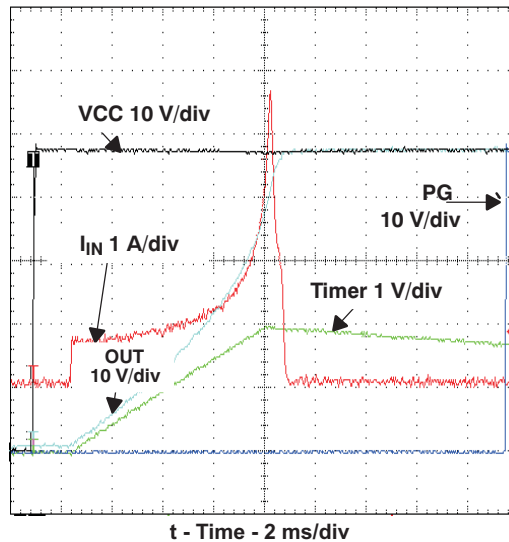
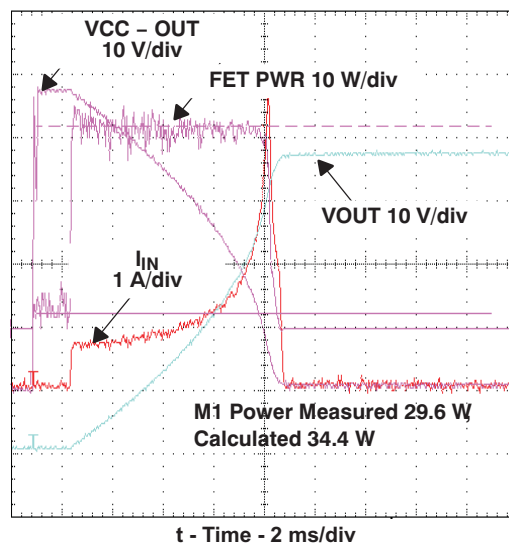

Figure 13. Basic Board Insertion
Figure 14. Computation of Q1 Stress During Startup
A capacitor may be tied from PROG to ground to alter the natural constant power inrush current shape. If properly designed, the effect is to cause the leading step of current in Figure 13 to look like a ramp.
The typical application circuit, and oscilloscope plots of Figure 13 through Figure 17 demonstrate many of the functions described Device Functional Modes.
### 7.4.1 Board Plug-In (Figure 13)
### 7.4.2 TIMER and PG Operation (Figure 13)
7.4.3 Action of the Constant Power Engine (Figure 14)
The calculated power dissipated in Q1,  $V_{DS} \times I_D$ , is computed under the same startup conditions as Figure 13 . The current of Q1, labeled  $I_{IN}$ , initially rises to the value that satisfies the constant power engine; in this case it is  $34\text{ W} \div 48\text{ V} = 0.7\text{ A}$ . The 34 W value is programmed into the engine by setting the PROG voltage using Equation 2 given in the PROG.  $V_{DS}$  of Q1, which is calculated as  $V_{(SENSE-OUT)}$ , falls as  $C_O$  charges, thus allowing the Q1 drain current to increase. This is the result of the internal constant power engine adjusting the current limit reference to the GATE amplifier as  $C_O$  charges and  $V_{DS}$  falls. The calculated device power in Figure 14, labeled FET PWR, is seen to be flat-topped and constant within the limitations of circuit tolerance and acquisition noise. A fixed current limit is implemented by clamping the constant power engine's output to 50 mV when  $V_{DS}$  is low. This protection technique can be viewed as a specialized form of foldback limiting; the benefit over linear foldback is that it yields the maximum output current from a device over the full range of  $V_{DS}$  and still protects the device.
A capacitor can be connected from the PROG pin to ground to reduce the initial current step seen in Figure 13 based on the Typical Application circuit. This method maintains a relatively fast turn-on time without the drawbacks of a gate-to-ground capacitor that include increased short circuit response time and less predictable gate clamping.